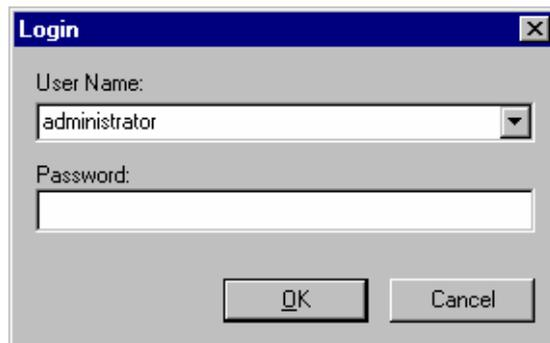

Figure 6-1: Login
1. Open TestStand Sequence Editor with **"Start" -> "Programs" -> "National Instruments TestStand" -> "Sequence Editor"** or by clicking the **"Sequence Editor"** icon on Windows desktop. You will now see the main screen of the Sequence Editor. Enter your user name and password (see Figure 6-1). The user name and password are stored in the user profiles of the TestStand software.